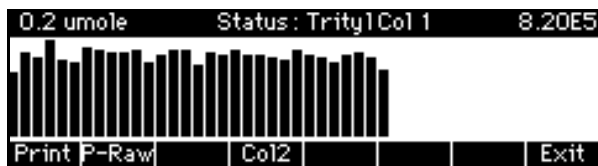

Figure F-4 Status: 11Trityl Col # Screen
- From the Status: Column # screen select **Trityl** to display the Status: Trityl Col # screen shown in Figure F-4. The system automatically updates the bar graph as the synthesis progresses.